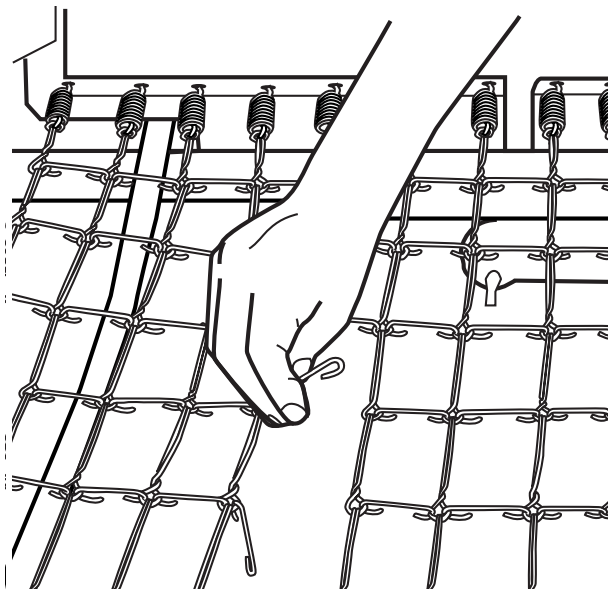

FIGURE 5 - ATTACHING LINKS FROM HEAD SPRING TO FOOT SPRING
10. To connect the link fabric extension to the head spring, manually raise the head spring and attach open-end hooks to the head spring. Refer to **FIGURE 5**.